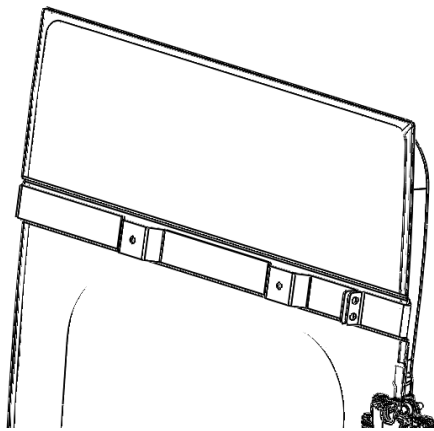

Figure 2: Tension Bar Installed on Rear Door
11. Loosely hook one end of the longer tension bar bracket around the door's pinch weld, just above the window location (Figure 2). The hook end should be on the inside seam with the mounting holes towards the taillight.
12. While holding the longer tension bar bracket in place, hook the shorter bracket around the door along the opposite sides pinch weld (Figure 2).